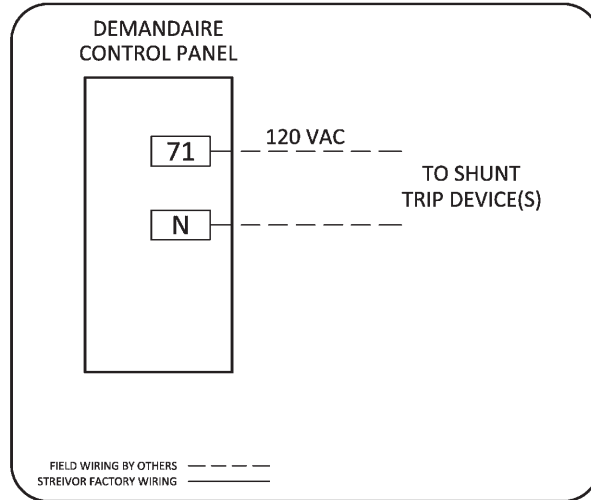

FIGURE 13: Optional Shunt Trip Wiring
- Terminal block 71 can be used to provide power to a shunt trip device to comply with NFPA 96 Section 10.4.1. Terminal block 71 provides 120 VAC power upon fire suppression system activation (Figure 13).